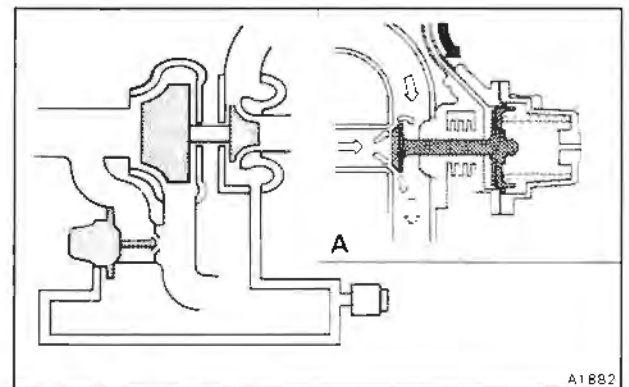

Fig. D3-4 Exhaust gas wastegate and control system
**Exhaust gas wastegate** (see fig. D3-4)